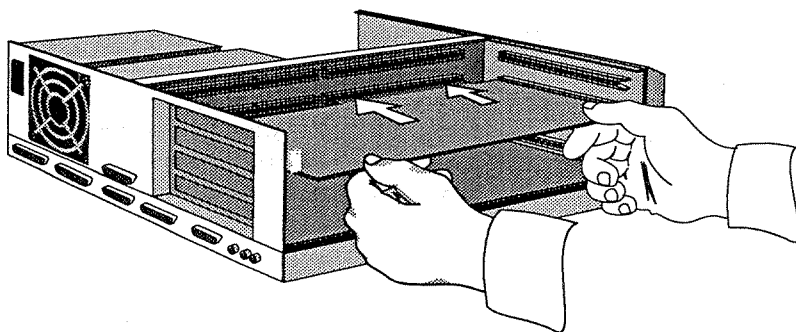

Figure 2.1 — Insertion in the A3000/A4000
2. Orient the A4008 with the circuitry on top and its attached slot cover to the rear, and slide it in carefully (see Figure 2.1).